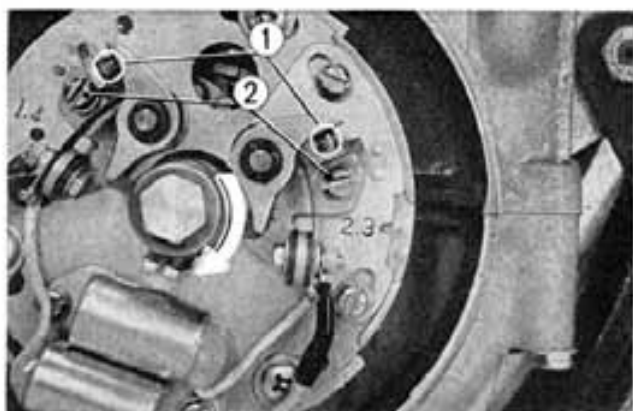

Fig. 7-19 ① Contact breaker points
② Contact breaker setting screws
③ Advancer shaft special washer
④ 6 mm washer ⑤ 6 mm hex nut
(1) Contact breaker point gap (Fig. 7-19)
To adjust the point gap, loosen the contact breaker plate locking screw and move the contact breaker to the right or left until the proper gap opening is obtained and then tighten the locking screw. (Fig. 7-19)